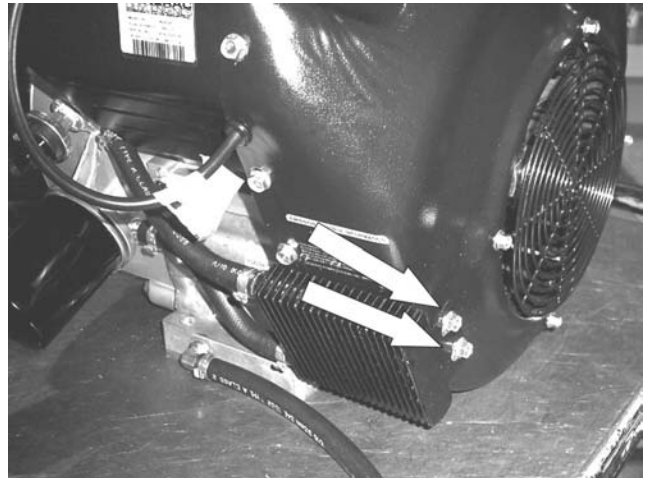

Figure 178.
13. **Unbolt Oil Cooler:** Using a 10mm socket remove the two 10mm bolts from the front of the oil cooler. See Figure 178. Remove the two 10mm bolts from the rear of the oil cooler. See Figure 190.